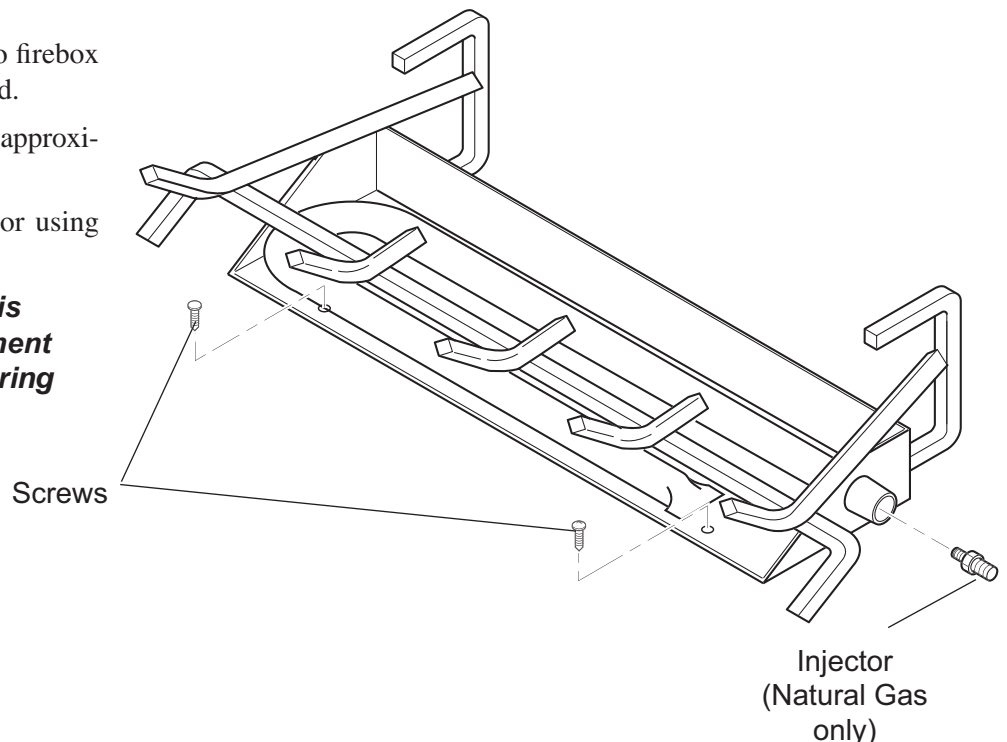

Figure 4 - Securing Grate/Burner Assembly into Firebox
4. Place front right log #3 on the front of the grate and to the right. *See Figure 4.*